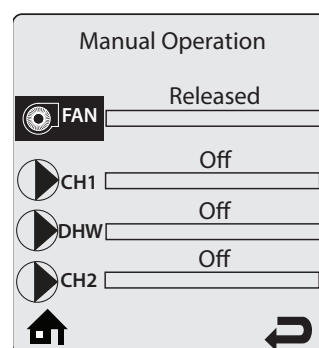

Fig. 7: CTRLMax Manual Operation
4. Press the CENTER button while the FAN icon is highlighted to manually fire the burner and power the CH circulator. See Fig. 7